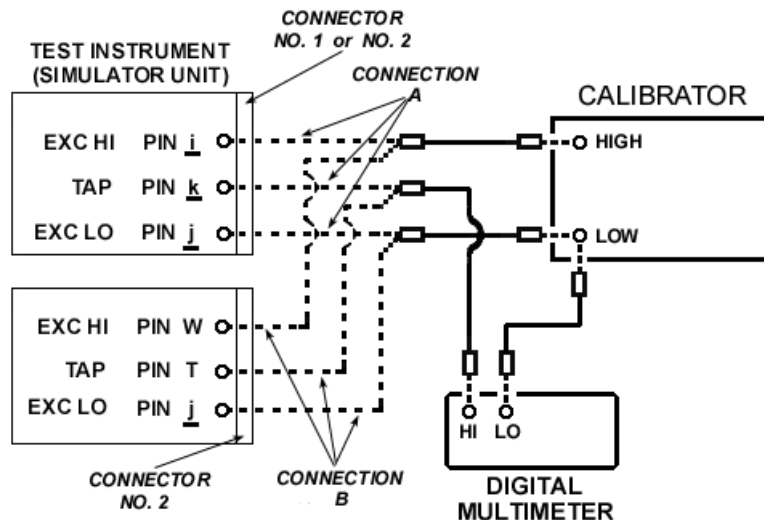

Figure 3. Engine oil pressure - equipment setup.
- (1) Connect equipment as shown in figure 3, connection A for connector No. 1. Do not disconnect equipment connected in figure 1.
(2) Set **TI ENGINE OIL PRESS NO. 1 CAL/NOR** switch to **CAL** and **HI/LO** switch to **LO**.
(3) Set calibrator for a 6 V, 400 Hz output.
(4) Set **ON-OFF-SIM ONLY** switch to **SIM ONLY**. If digital multimeter does not indicate between 3.447 and 3.735 V ac, perform **b(1)** through (4) below.
(5) Set **ENGINE OIL PRESS NO. 1 HI/LO** switch to **HI**. Digital multimeter will indicate between 2.770 and 3.058 V ac.
(6) Set **ENGINE OIL PRESS NO. 1 CAL/NOR** switch to **NOR** and adjust **ENGINE OIL PRESS NO. 1** variable control from fully ccw to fully cw. If digital multimeter does not indicate from more than 3.447 to less than 2.770 V ac, perform **b(1)** through (3) and (5) and (6) below.
(7) Set **ON-OFF-SIM ONLY** switch to **OFF** and calibrator to **STBY**.
(8) Connect equipment as shown in figure 3, connection A, for connector
- (1) Connect equipment as shown in figure 3, connection B, for connector No. 2. Do not disconnect equipment connected in figure 1.
- (2) Set **XMSN OIL PRESS CAL/NOR** switch to **CAL** and **HI/LO** switch to **LO**.
- (3) Set calibrator for a 6 V, 400 Hz output.
- (4) Set **ON-OFF-SIM ONLY** switch to **SIM ONLY**. If digital multimeter does not indicate between 3.447 and 3.735 V ac, perform **b** (1) through (4) below.
- (5) Set **XMSN OIL PRESS HI/LO** switch to **HI**. Digital multimeter will indicate between 2.696 and 2.984 V ac.
- (6) Set **XMSN OIL PRESS CAL/NOR** switch to **NOR** and adjust **XMSN OIL PRESS** variable control from fully ccw to fully cw. If digital multimeter does not indicate from more than 3.447 to less than 2.696 V ac, perform **b** (1) through (3) and (5) through (7) below.
- (7) Set **ON-OFF-SIM ONLY** switch to **OFF**.